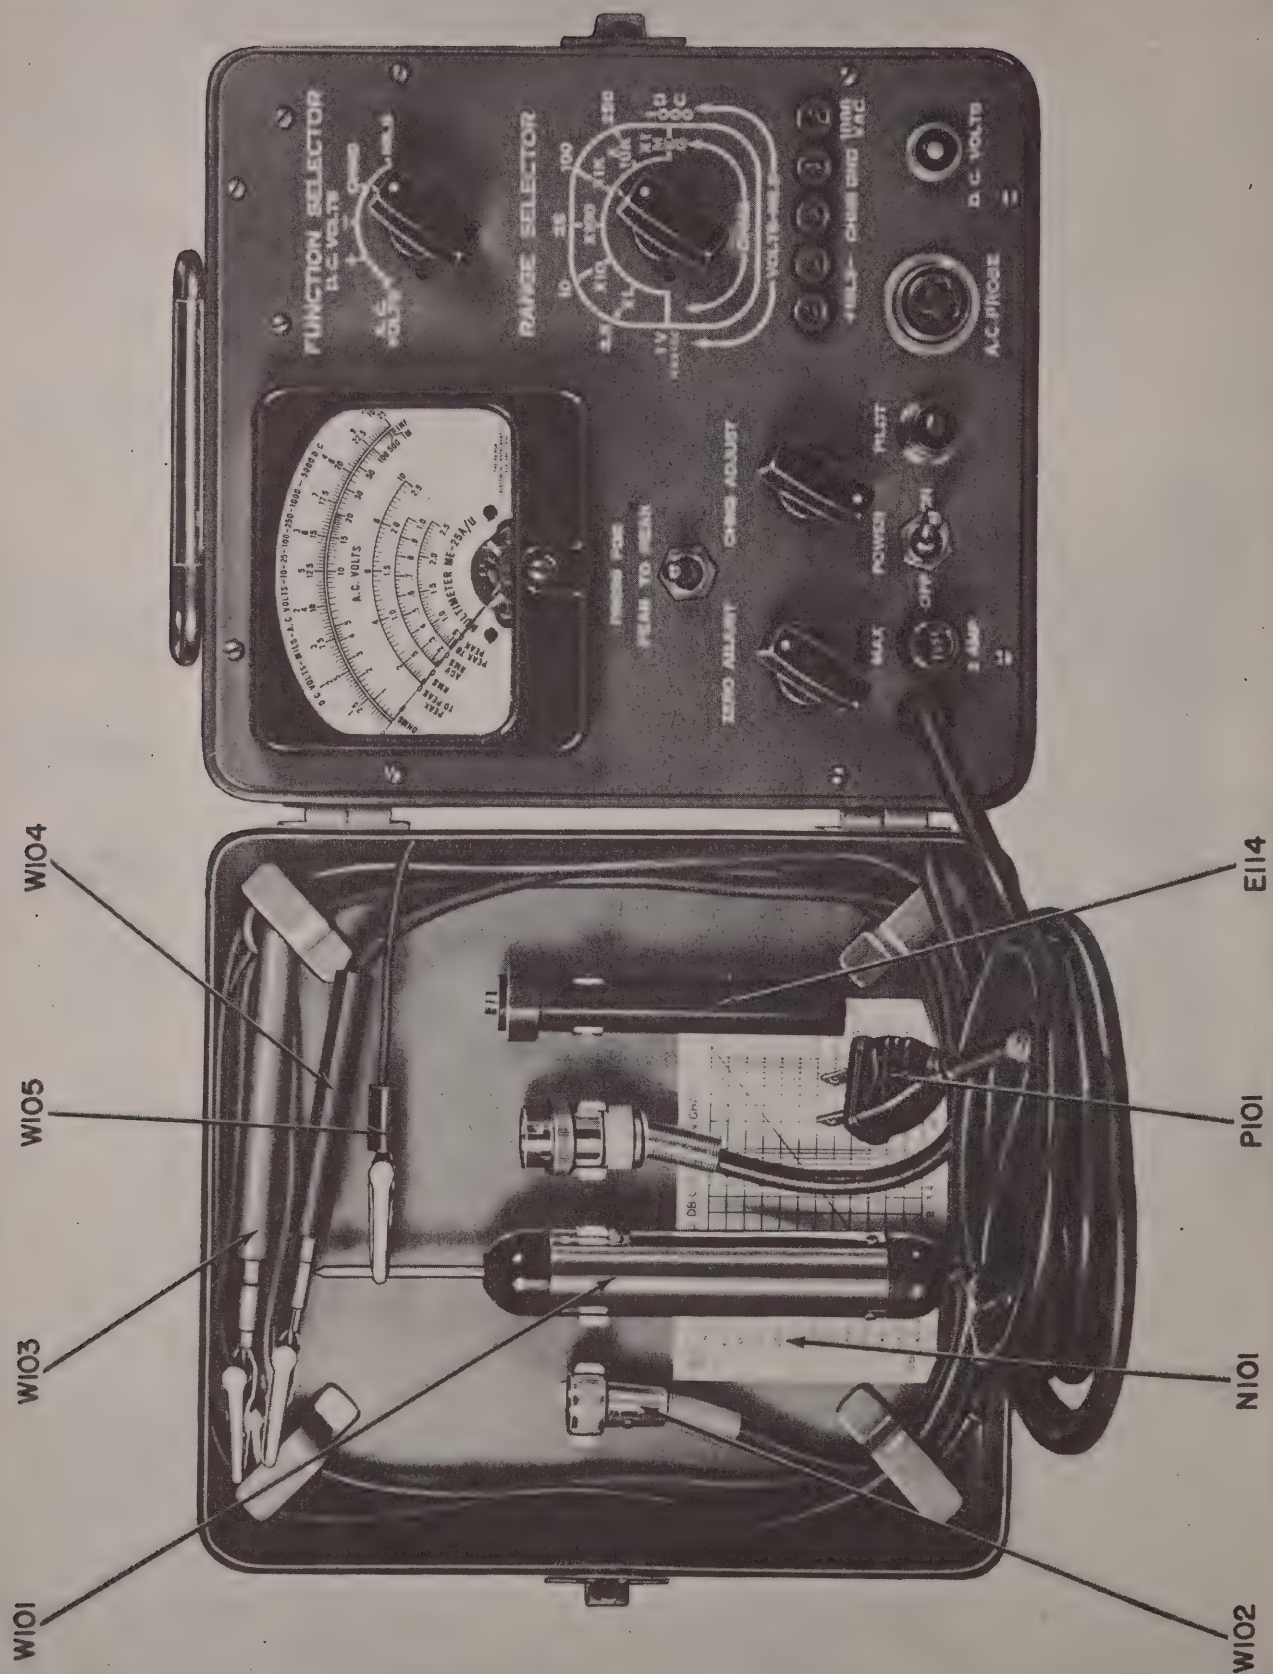

Figure 3-3. Multimeter ME-25A/U with Cable Compartment in Cover
a. HOUSING.—Multimeter ME-25A/U is housed in a case consisting of the main body with a cover secured in place by slip hinges and one draw bolt. Suitable brackets and fasteners are secured within the cover to provide for storage of the operating cables, AC probe, DC extension probe and line cord. A rubber gasket is also provided between the main body and the cover. (See Fig. 3-3)
(1) With a continuity checker, test of cables W103, W104 and W105 should show the resistance to be approximately zero ohms.
(2) Check W102 with an ohmmeter, and the resistance from the center contact of the cable connector to the prod end should be approximately 3.3 megohms. Infinity resistance should be found between the outer part of the cable connector and the inner connection.
(3) Cable test probe W101 can be checked with an ohmmeter and should be approximately 6 ohms between pins 1 and 4. There should be infinity ohms between pin 3 and any other pin. There should be zero ohms between pin 4 and the cable connector outer shell.
(4) With the POWER switch turned ON, an ohmmeter check of the resistance between the two plugs of the AC line supply should show approximately 25 ohms. If it should vary substantially from this value or show no continuity, inspect fuses and wiring for cause of the trouble.
d. REPLACING OPERATING CABLES.—When replacing the test leads and power cord in the cable compartment provided in the cover of Multimeter ME-25A/U, the following procedure should be followed (See Figure 3-3):
(1) Place the instrument face up with the cover hinged onto the case.
(2) Secure the probe section of W101 to the second clamp from the left on the cover, and insert the cable under the corner brackets in a counter clockwise direction. The male plug end of this cable is secured to the third clamp from the left.
(3) Next, place the connector end of test lead W102 in the first clamp on the left and wind the cable around the corner brackets in a counter clockwise direction.
(4) Secure the prods of test leads W103 and W104
(5) Connect the alligator clip of W105 to the prod tip of W101 as shown in Figure 3-3, and place Adapter
a. The test leads, AC probe and cable assembly, high voltage adapter and AC power line cord are placed in the cover compartment, as shown in Figure 3-3, for storage and carrying. By removing the cover from the case the test leads are easily accessible for removal or replacement. The AC power line cord is permanently attached to the main panel.